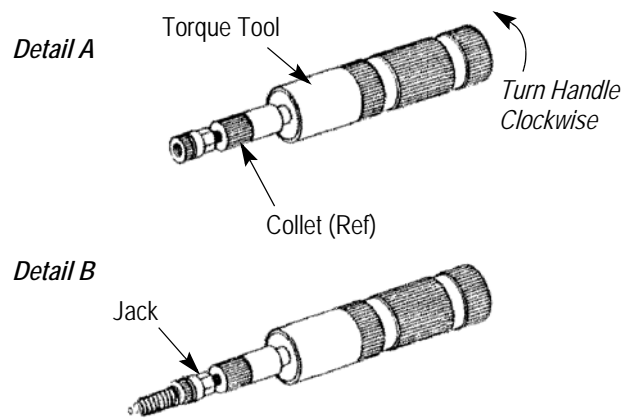

Figure 3
2. While holding the collet of the torque tool, turn the handle clockwise until it stops. Thread the jack into the tool until it bottoms inside the tool. Hand-tighten the jack. Refer to Figure 3.